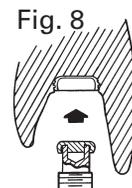

Fig. 8
9. The Locator Male Seating Tool (contained in Locator Core Tool, 636066) is used to firmly push a Locator Replacement Male into the metal Denture Cap (Fig. 7). The replacement male must be placed securely in level with the rim of the cap (Fig. 8).